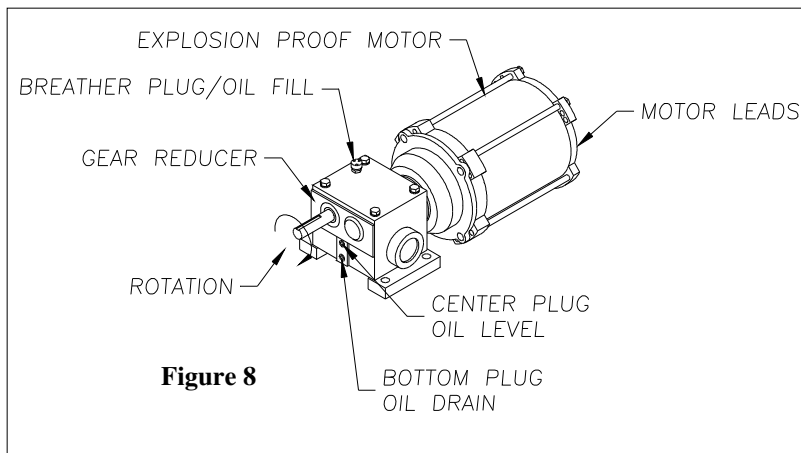

Figure 8
A. Remove the plastic protective plug from the gear reducer top and replace with breather plug supplied. (See Fig. 8)
Connect motor leads to power so that the belt is carried downward through the wiper blades. (Rotation is in direction of the arrow as shown in figure 8)